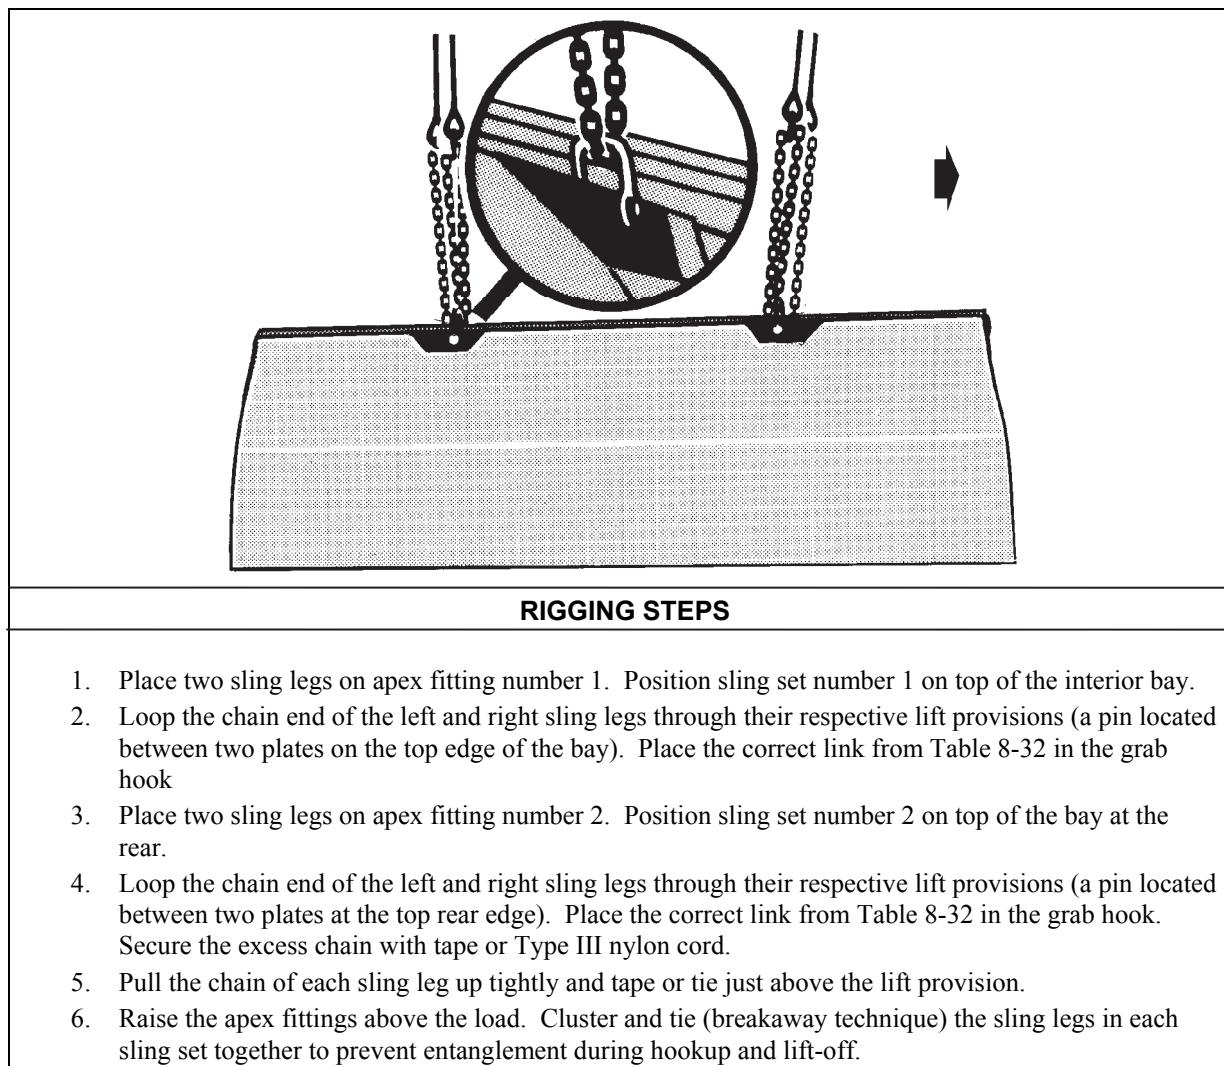

Figure 8-32. Ribbon Bridge Interior Bay
- **Rigging.** Rig the load according to the steps in Figure 8-32.